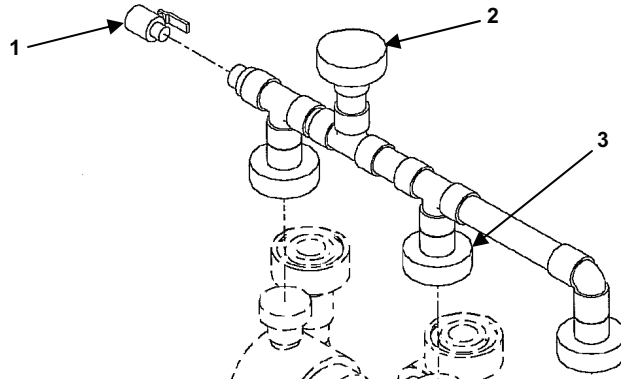

Figure 10. Fast Flush Manifold Piping.
1. Loosen the unions 3 ea. (Figure 10, Item 3) and (Figure 10, Item 2) to remove this piping. Remove drain valve (Figure 10, Item 1) only if necessary.
1. Refer to Figure 10 for this piping.
3. Tighten the unions (Figure 10, Item 3 and 2).
4. Install the drain valve (Figure 10, Item 1) if necessary.